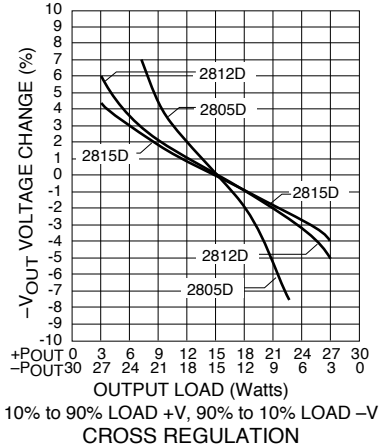
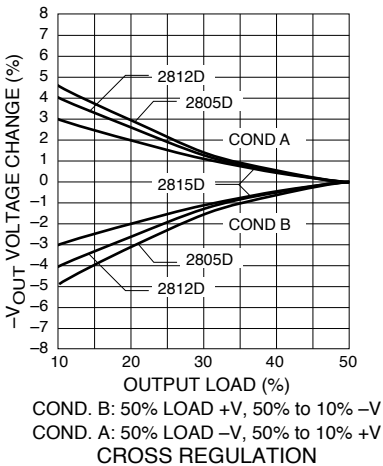

FIGURE 22
FIGURE 23
- Effect on negative VOUT from 50%/50% loads to 90%/10% or 10%/90% loads. See "Figure 22" and "Figure 23" on page 12.